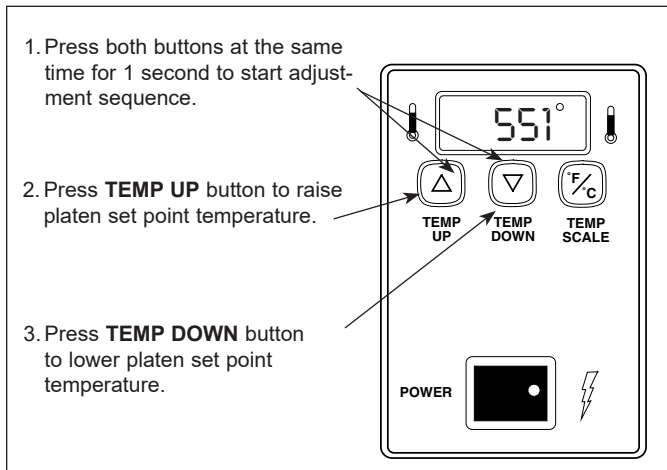

Figure 5. Platen Heater Set Point Temperature
2. Press and hold the **TEMP UP** and **TEMP DOWN** buttons for over 1 second until the display flashes the Platen set point temperature, then release (Figure 5).